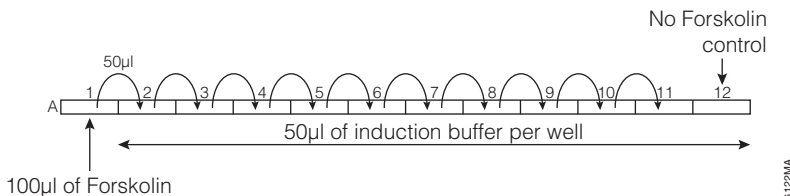

Figure 7. Dilution scheme for the agonist forskolin.
4. Perform a serial twofold dilution of forskolin by transferring 50µl from well A1 to well A2 with a pipette, pipetting to mix. Transfer 50µl to well A3; mix. Repeat for wells A4 through A11. See Figure 7. Discard the extra 50µl from well A11. Do not add forskolin to the no-forskolin control reactions in well A12.